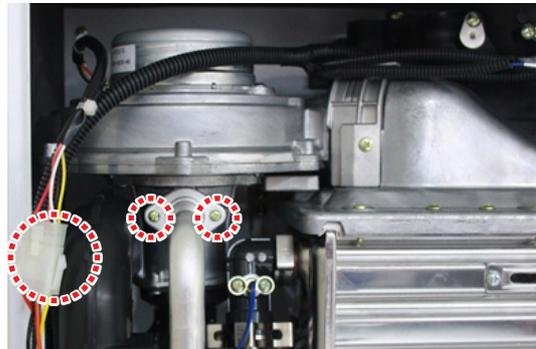

Figure5
6. Disconnect the wiring connector from the fan assembly, and then remove the 2 screws from the gas valve connection as shown in figure 5 below.